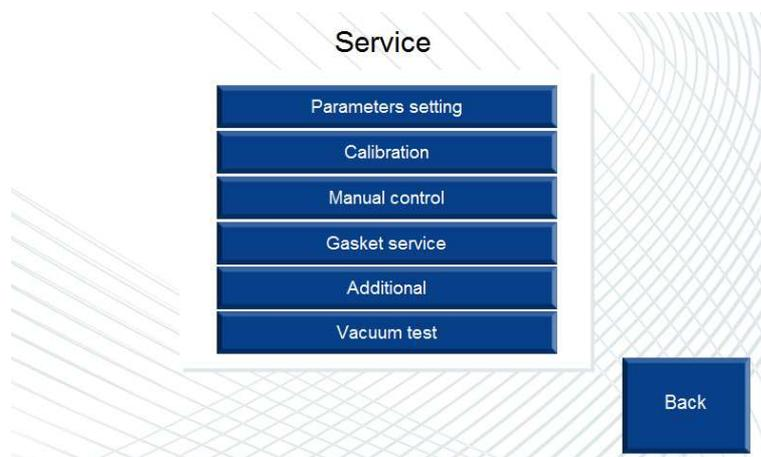

Fig. 17
**Back** – pressing this button returns to the service screen (Fig. 17).